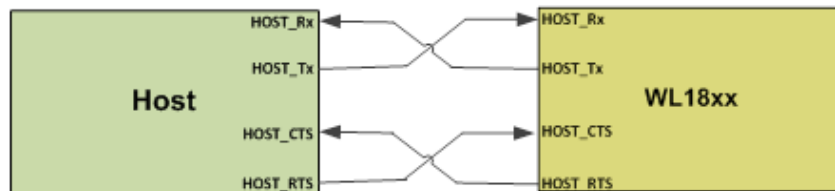

Figure 8. HOST HCI UART Interface
- Verify that the HCI interface is connected as shown in Figure 8. Note that a TX pin always routes to a RX pin, and a RTS pin always routes to a CTS pin.